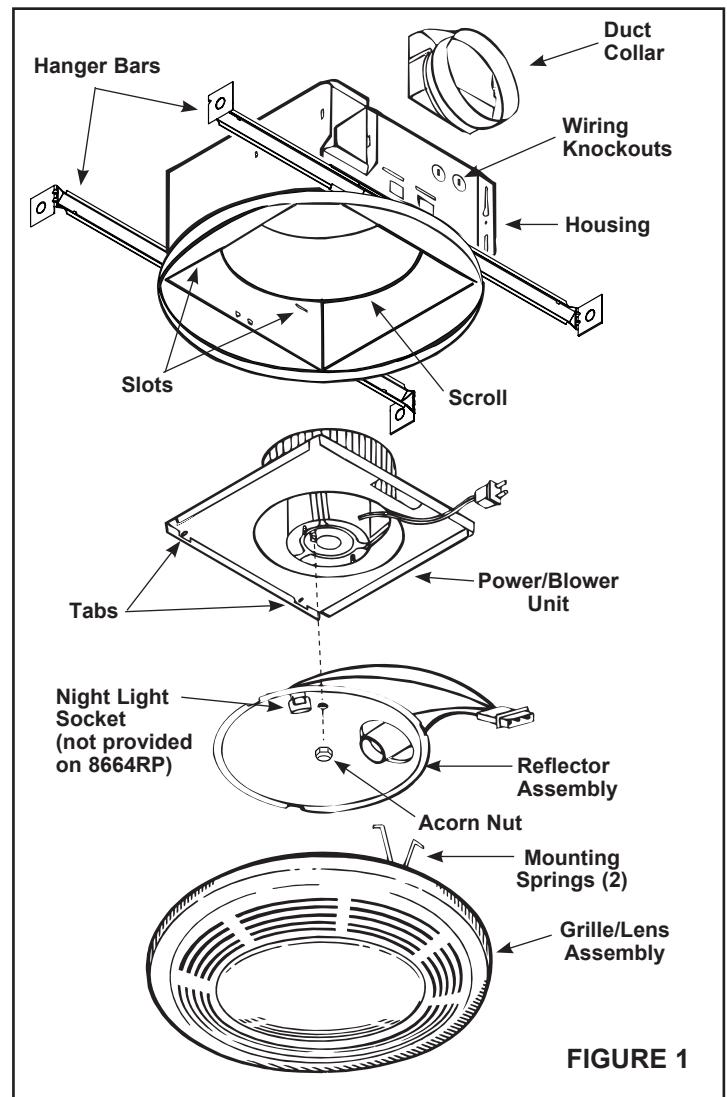

FIGURE 1
1. Refer to Figure 1. Remove power unit/blower assembly from housing.
1. Refer to Figure 1. Place duct collar over flanges at discharge opening of fan. Secure collar by snapping tabs into slots in flanges.
1. **Refer to Figure 1.** Place power/blower unit into housing so that mounting plate's tabs insert into slots in housing.